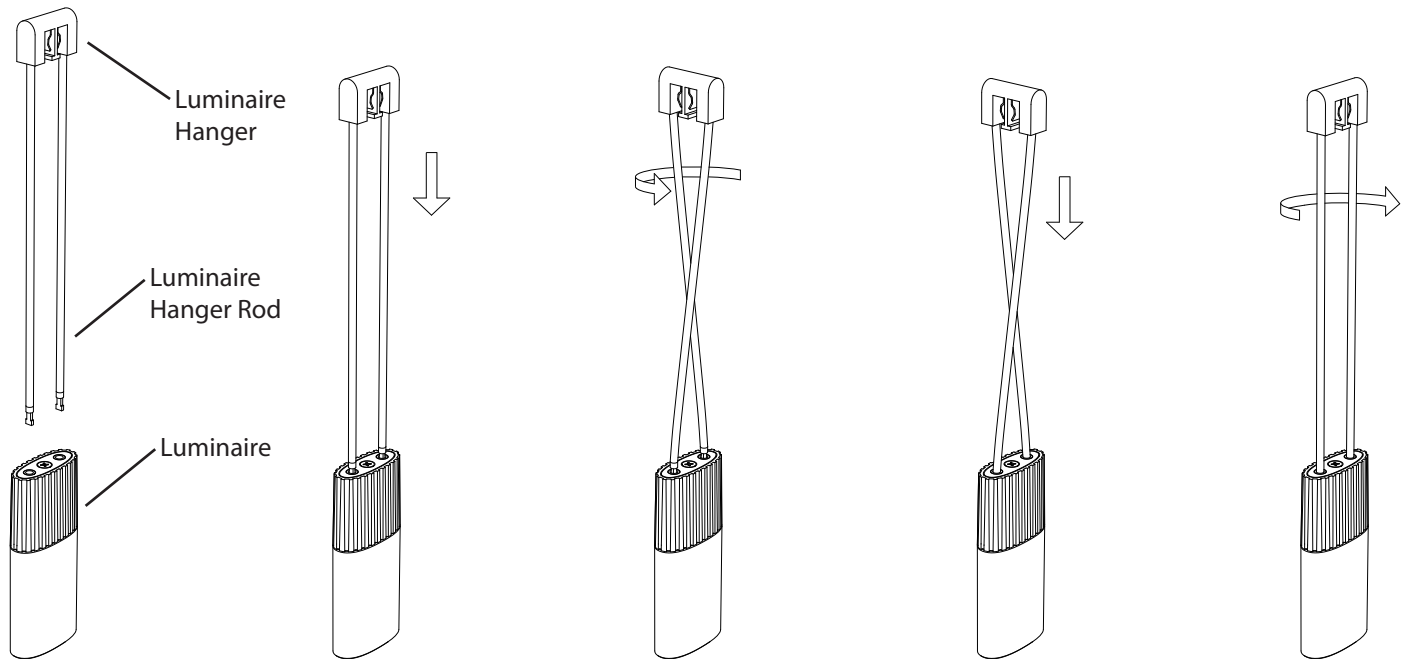
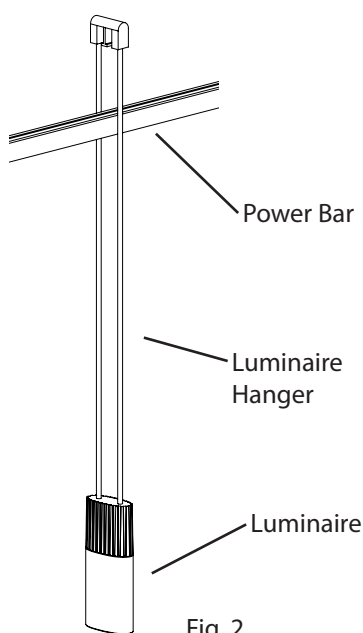
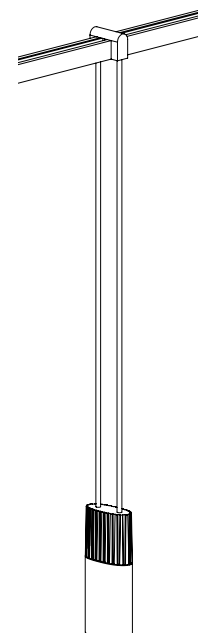

Fig. 1
Fig. 2
Fig. 3
1. Align **In-Line Connector** with **Power Bar** (Fig. 1) and press down firmly on the top of the Power Bars, while pressing up on the bottom of the Connector until the Power Bars clicks into place (Fig. 2).
NOTE: Each Single Cord Power Feed Hanger only carries half of the electrical circuit, and must be used in pairs. To avoid short-circuiting the system, the spring contacts must point in different directions (Fig 1).
1. Align **Hanger** with **Power Bars** (Fig. 2) and press down firmly on the top (or bottom) of the Power Bar, while pressing up (or down) on the bottom of the Hanger, until the Power Bar clicks into place (Fig. 3).
Luminaire Hanger (Fig. 1):
1. Place the **Luminaire Hanger** over the **Power Bar** (Fig. 2).
2. Press down firmly on the top of the **Luminaire Hanger**, while pressing up on the bottom of the **Power Bar**, until the Luminaire Hanger clicks into place (Fig 3).
3. To remove, tip the **Parallel Luminaire Hanger** in the direction of the **Power Bar** to release the **Snap Hooks**, then pull the Parallel Luminaire Hanger off the Power Bar (Fig. 3).